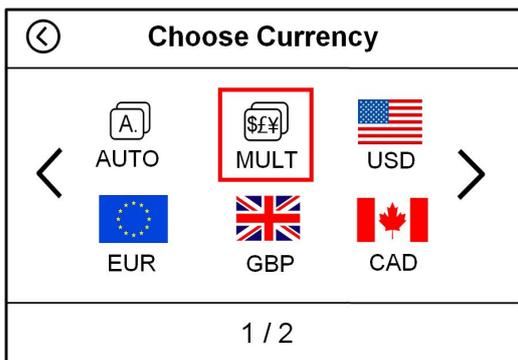

Figure 10
1) Press the key “” or the flag “” on upper left corner of the display to enter the currency selection interface, as shown in the following Figure 10, then Click on the Multi-country Mix